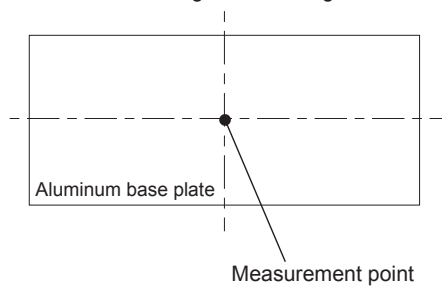
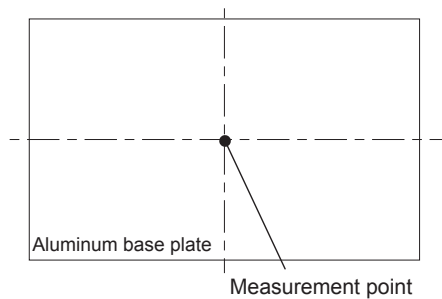

Fig.8.2.7 Measurement point (CHS200/CHS300 option "B" and "BC")
Fig.8.2.8 Measurement point (CHS400/CHS500 option "B")
- Use with the convection cooling or the forced air cooling. Make sure the temperatures at temperature measurement locations shown from Fig.8.2.1 to Fig.8.2.8 below are on or under the derating curve in Fig.8.1. Ambient temperature must be kept at 85°C or under.
■ For option "B" which is used with the convection cooling, forced air cooling or conduction cooling, use the temperature measurement location as shown in Fig.8.2.7 and Fig.8.2.8.